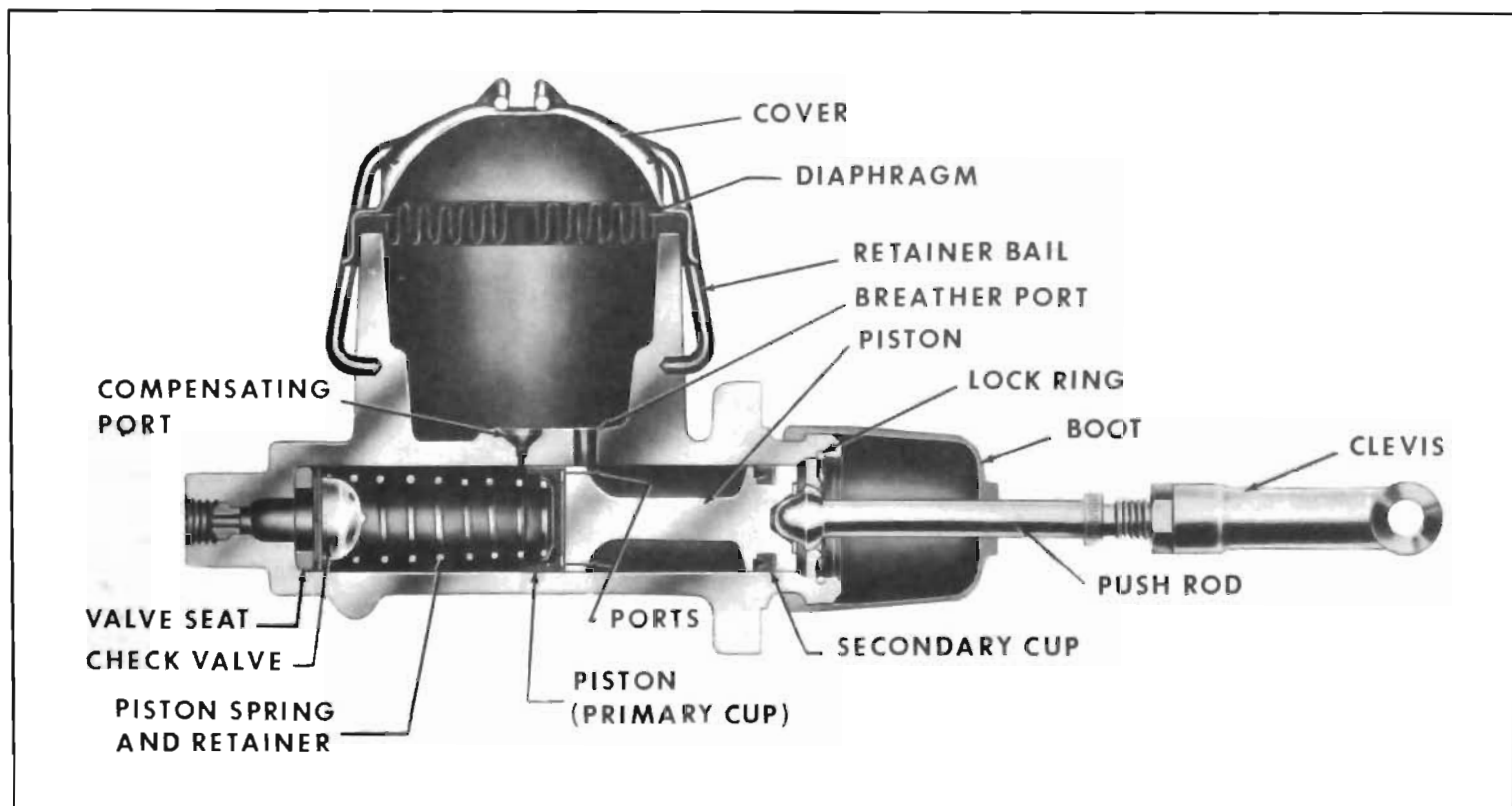

Figure 9-13—Brake Master Cylinder
1. Clean outside of master cylinder thoroughly. Remove reservoir cover and diaphragm. Turn cylinder over and pump push rod by hand to drain all brake fluid. Always discard used fluid. See Figure 9-13.
2. Install valve seat washer, check valve, spring, primary cup, and piston with secondary cup. Then install push rod and stop plate assembly. Hold push rod in and install lock ring. See Figure 9-13.